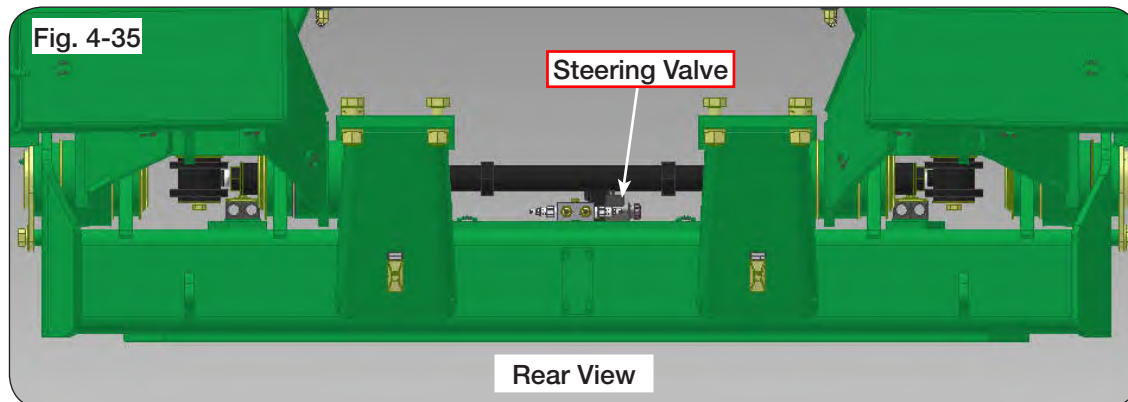

Fig. 4-35
4. Check harness connection on the steering valve located on the cross axle, make sure there is 12-Volts to the solenoid on the valve attached to the cross axle. (Fig. 4-35)